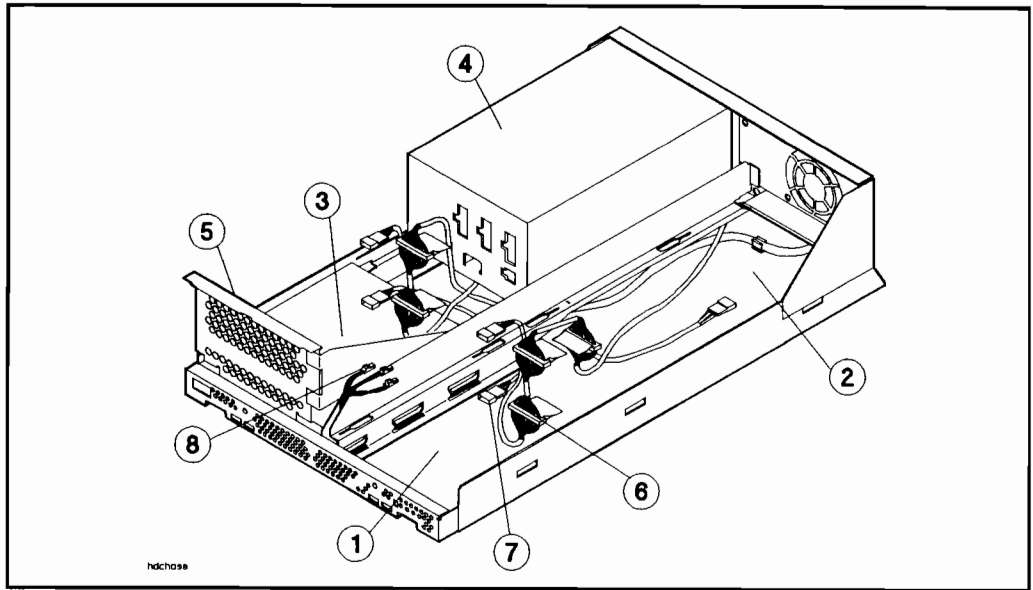

Figure 2-2. Mass Storage System Chassis
1. Remove the two T15 screws (4) from the rear of the top cover.
2. Slide the top cover (3) one-half inch beyond the back of the mass storage system chassis, then lift the front of the top cover off of the mass storage system chassis. Figure 2-2 shows the components of the mass storage system chassis.
To connect the mass storage system internal cables (see Figure 2-2):